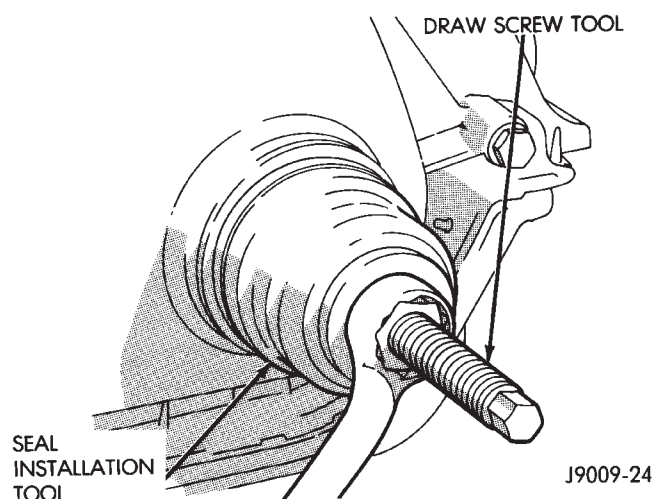

Fig. 62 Timing Case Cover Oil Seal Installation
(1) Position the replacement oil seal on Timing Case Cover Alignment and Seal Installation Tool 6139 with seal open end facing inward. Apply a light film of Perfect Seal, or equivalent, on the outside diameter of the seal. Lightly coat the crankshaft with engine oil.
(2) Position the tool and seal over the end of the crankshaft and insert a draw screw tool into Seal Installation Tool 6139 (Fig. 62). Tighten the nut against the tool until it contacts the cover.